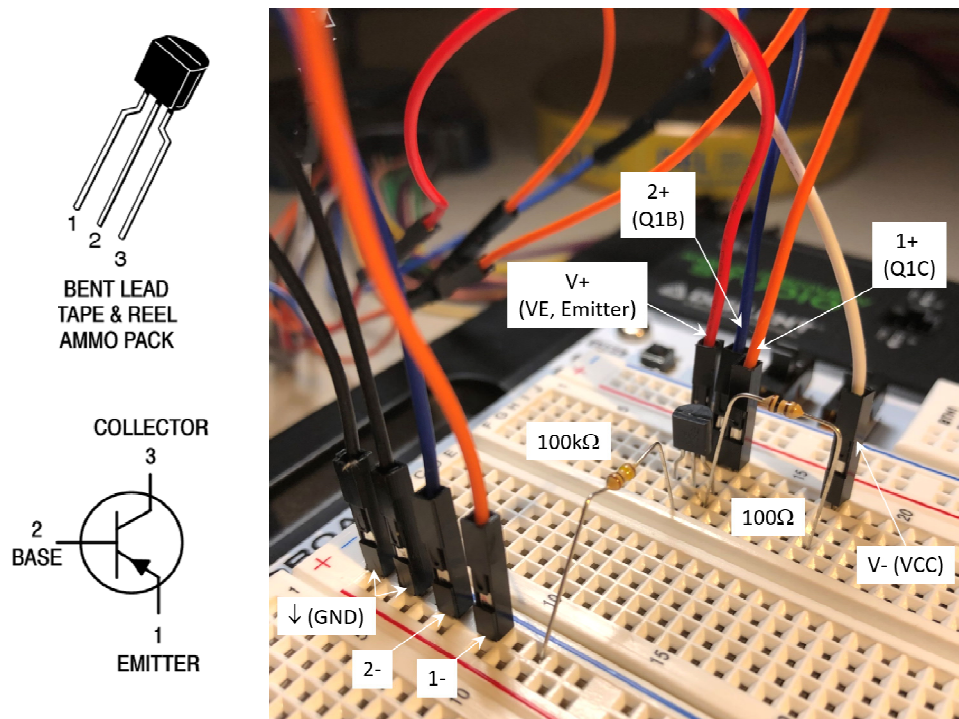

Fig. 4 Experimental setup for the DC Characterization of a PNP-BJT 2N3906
- 2.5 Prepare the circuit, as shown in Fig. 4, using the same settings for VE and VCC in Steps 2.2 to 2.4.